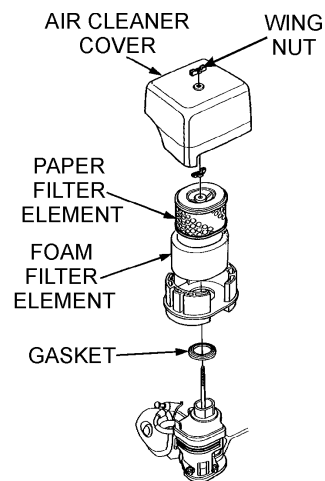

Figure 19. Engine Air Cleaner
1. Remove the air cleaner cover and foam filter element as shown in Figure 19.
2. Tap the paper filter element (Figure 19) several times on a hard surface to remove dirt, or blow compressed air [not exceeding 30 psi (207 kPa, 2.1 kgf/cm²)] through the filter element from the air cleaner case side. **NEVER** brush off dirt. Brushing will force dirt into the fibers. Replace the paper filter element if it is excessively dirty.